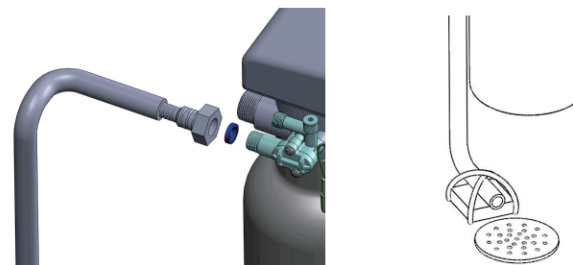

Figure 1-4
- If the valve belongs to time clock type, there are no step ② and ③.
⑤ Install drain pipeline
- As the Figure 1-4 shows, insert drain line flow control into drain hose connector.
- Fix the drain hose well as the Figure1-4 shows.
- Be sure not connect drain hose with sewer, and leave a certain space between them, in case wastewater are absorbing into the water treatment equipment, such as showed in the Figure1-4.